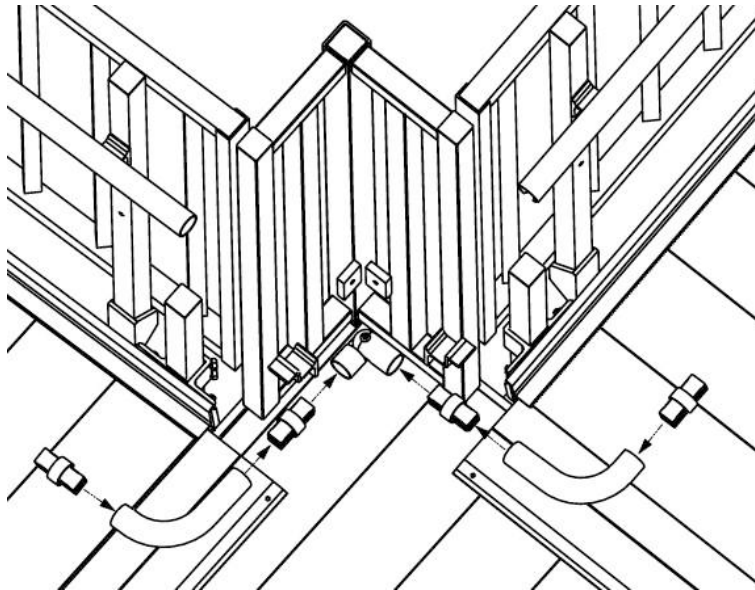

FIG. 45
- 8.7 At an intermediate turn platform on an inside corner (FIG. 45):